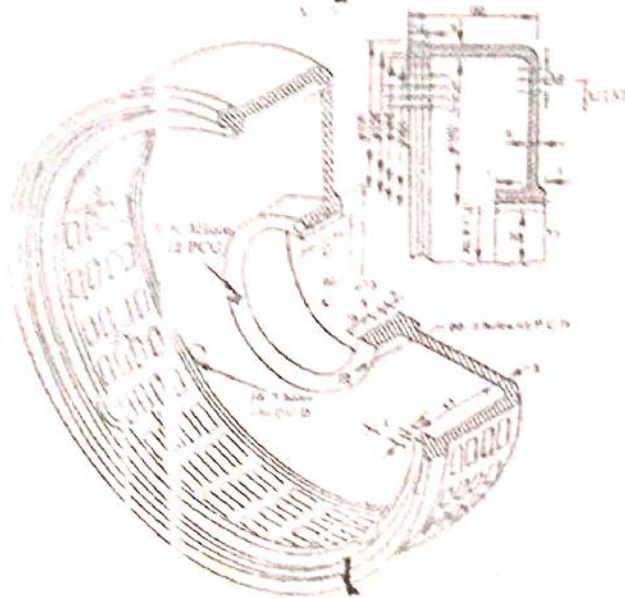

Fig. 1
- Q3. The isometric view of pod cover of an induction motor is shown in Fig. 1. Draw the orthographic projection: